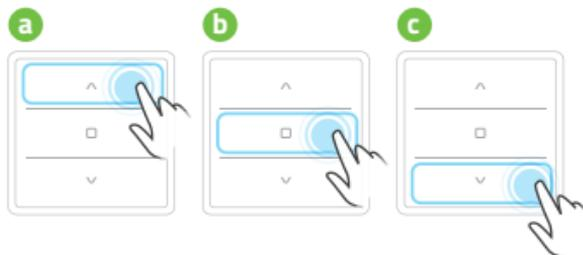

Fig. 9.2
1. Activation by touching the finger in the control buttons field. The pilot will send to the receiver an order corresponding to the area on the screen- **Fig. 9.2**.